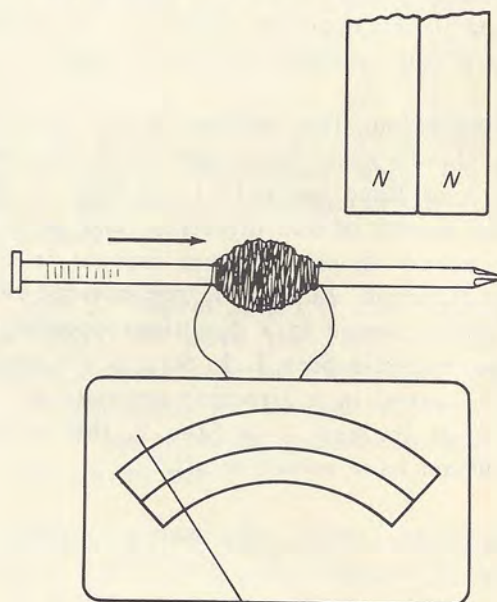

Fig. 12-18
Step 5. Hold the other bar magnet next to the first one, so that both north poles are near you. Starting at one end of the coil, as shown in Fig. 12-18, move the coil past the two magnets slowly and evenly, until the other end of the coil passes the magnets. Write down the distance that the needle moves. Compare the result with the amount of emf obtained in Step 4.